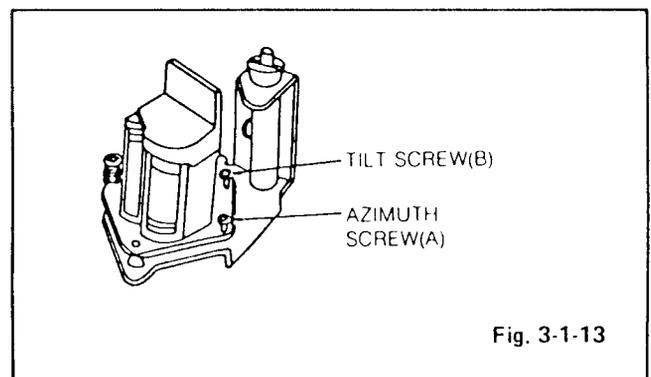
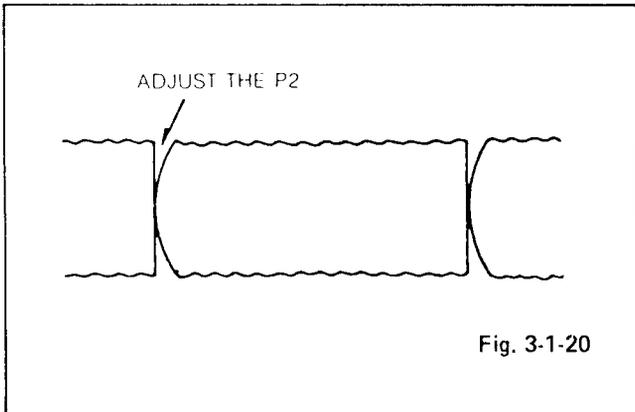

Fig. 3-1-13
Fig. 3-1-20
- c) Observe the tape running state at P4, and when the tape is folded at upper or lower guide, or moves continuously upward or downward, adjust the tilt adjusting screw and the azimuth adjusting screw in Fig. 3-1-13 with the driver (+) or (-) type as shown Fig. 3-1-14.
- adjust the tilt adjustment screw, azimuth adjustment screw and RPE head adjust so that the RPE head is Vertical.(Fig. 3-1-13).
- e) Repeat the measurement and adjustment in the above manner with the screw tightened as shown in Fig. 3-1-20.
- b) Insert the alignment tape and playback. Adjust the tilt adjustment screw and the azimuth adjustment screw so that the audio output is at max.(Fig. 3-1-13).
- c) Adjust the nut (A) by horizontal position adjusting driver so that the audio output is max.
- The nut (A) is not turned left, right over one quarter.
- d) Adjust P2 and P3 using post height adjusting driver so that the RF envelope output is at maximum. Adjust P2 if the RF output is small at start point. (Fig. 3-1-20)